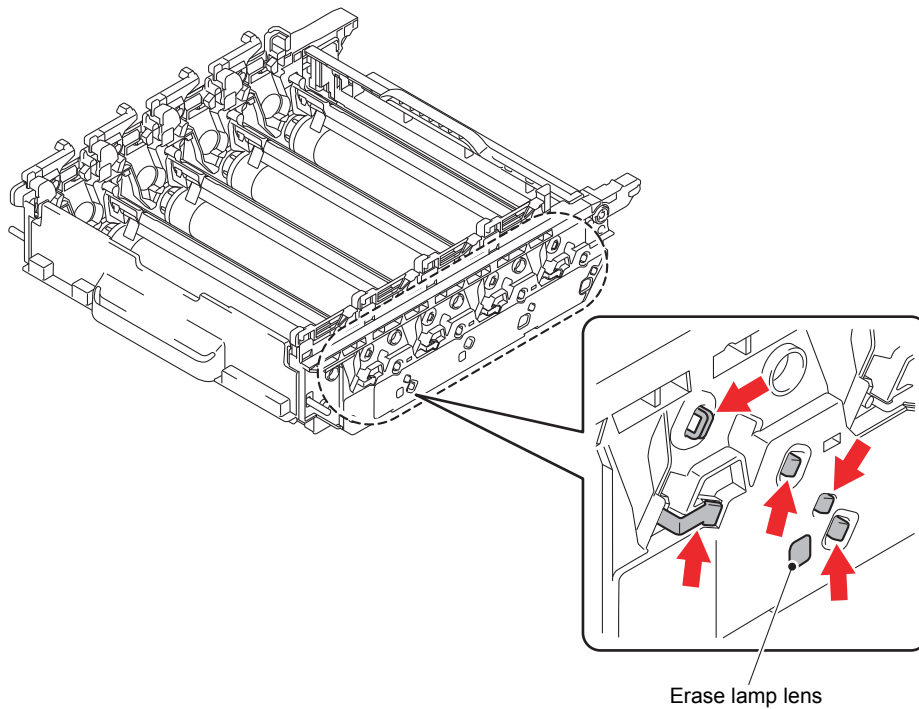

Fig. 2-8
- Clean the terminal of the drum unit. (Refer to Fig. 2-8 \(P2-55\).)